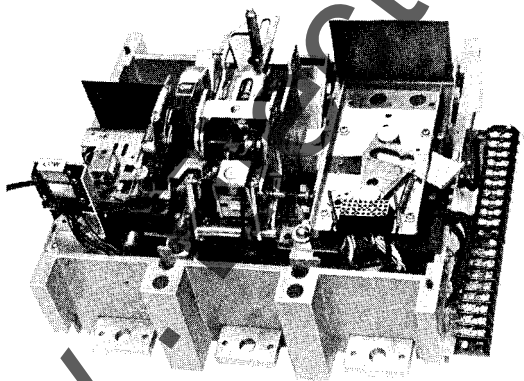

Figure 41.
3. If auxiliary switches are to be installed in the right pole, remove interchangeable solid state trip unit by depressing lock release lever while lifting up on trip unit. Remove trip unit mounting plate. See Fig. 41.